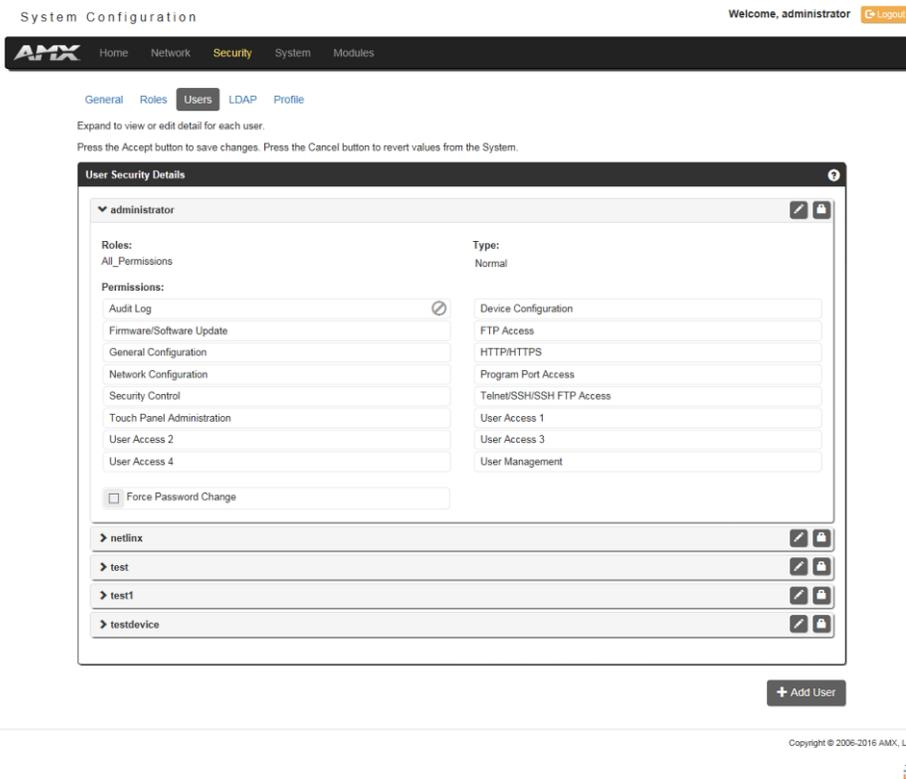

FIG. 43 Security - Users page
Select the *Users* option on the Security Page to access the **User Security Details** page (FIG. 43). The options on this page allow authorized users to add/delete/lock User accounts and configure User's access rights. Locking a user account disables the account without deleting it.
2. Click the **Add User** button (see FIG. 43) to access the **Add New User** page (FIG. 44).
2. Click the **Lock** button (see FIG. 43) for any user listed on the *User Security Details* page to lock and disable the user. Click the Lock button again to unlock and enable the user.
The LDAP page provides configuration and tests connection to a remote directory service via LDAPv3. The master supports the option of an insecure or secure connection. The secure option is supported via the StartTLS command in LDAP and also via "LDAPS", or LDAP over SSL/TLS on port 636. Select the *LDAP* option on the Security Page to access the **LDAP Settings** page (FIG. 43). The options on this page allow authorized users to enable and modify LDAP security settings.